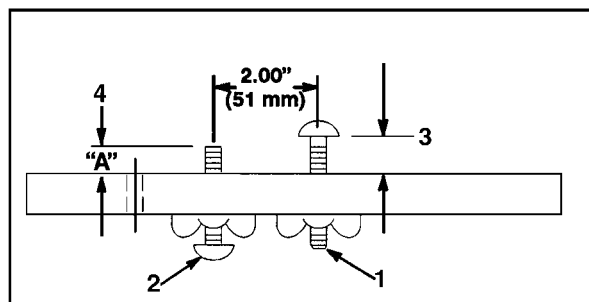

Figure 22
1. Using a two-screw gauge bar, Toro part no. 98-1852, set the first screw to the desired height of cut. This setting is from the bar face to the underside of the screw head (Fig. 22).